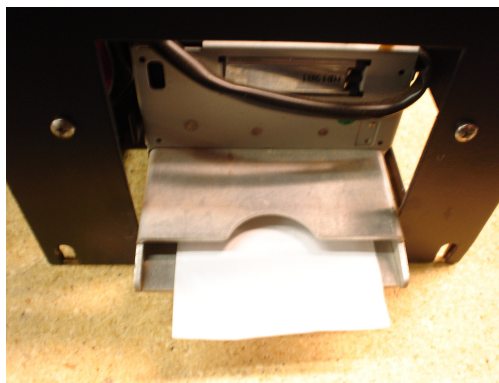

Figure P4: AC7074 Printer – Front View, Paper Fed Through
3. Wrap the paper under the “Paper Guide”, and begin to feed it into the “Paper Slot.” You do not need to fold or cut the paper in any way; it should be left square in the front. Continue to feed the paper into the slot, through the print head, until it passes out through the front of the machine (refer to Figure P4).